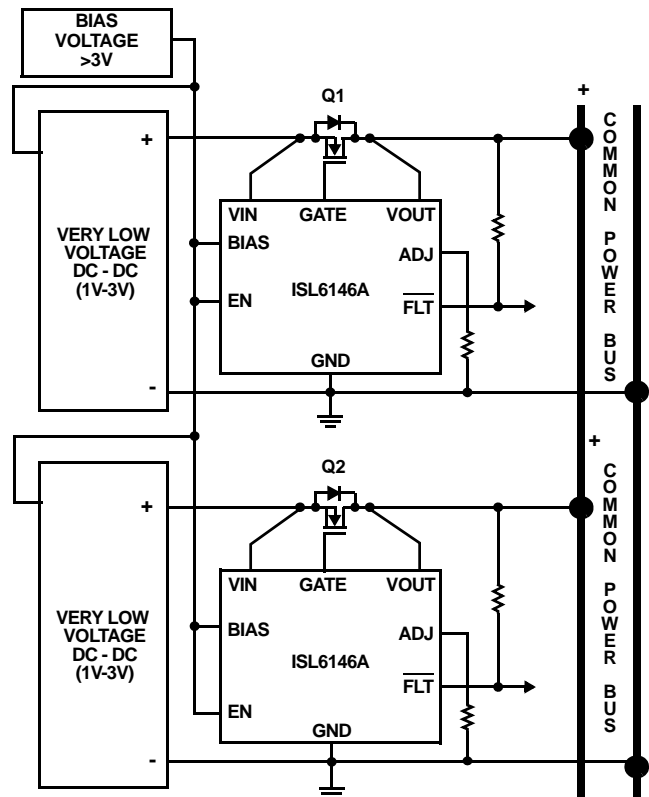

FIGURE 47. LOW VOLTAGE APPLICATION DIAGRAM
The ISL6146A application shown in Figure 47 is the configuration for ORing very low voltages of 1V to 3V. Additionally, this application shows the utilization of the ADJ input with a single resistor tied to GND. This provides the user a programmable level of $V_{OUT} > V_{IN}$ before the High Speed (HS) Comparator is activated and the GATE output is pulled down to allow for normal voltage fluctuations in the system.